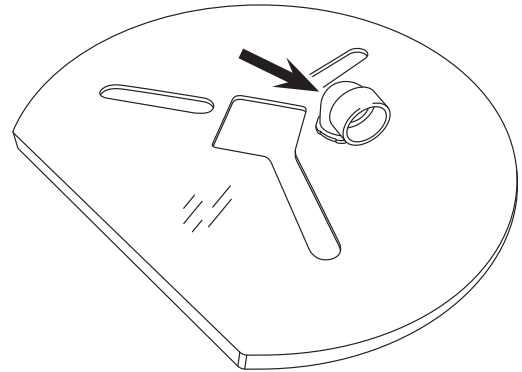

Figure 16
1. Attach the 90° elbow to the polycarbonate panel of the Containment Hood. (Figure 16)